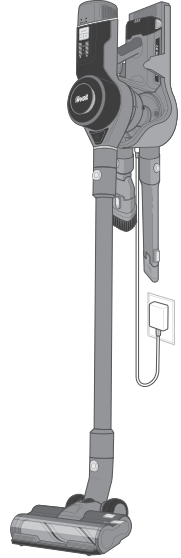

Figure 4.1
2. Hang the vacuum on the charging dock [Figure 4.1].